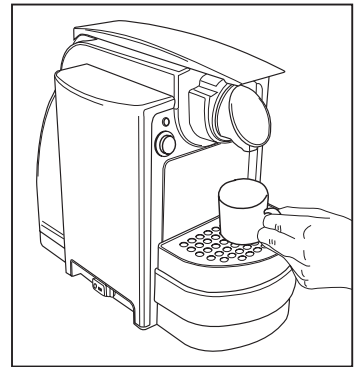

Fig. 5
- Ensure that there are no capsules inside; power on the machine via the main switch (on the back) (9)
- Place a large empty cup under the coffee/tea/drinks dispenser. **(Fig. 5)**